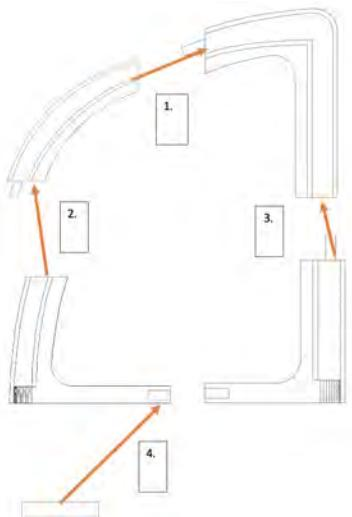

Fig. 37 (Side Piece assembly)
- Print and assemble Sides- Print off files named (LeftSideBottomL, LeftSideBottomR, LeftSideTopL, LeftSideTopR, RightSideBottomL, RightSideBottomR, RightSideTopL, RightSideTopR, 2*SideSecuringBlock) using either PLA or ABS filament. The male peg will slide into the female slot in each piece. The pieces will be assembled in the order of 1. The Top Right piece will slide into the Top Left piece. 2. The Bottom Left piece will slide onto the assembly listed in the previous step. 3. Slide the Bottom Right piece onto the right side of the assembly. 4. Slide the Securing Block into the cavity in between the Bottom Left and Bottom Right piece. Some sanding will be required depending on the type of filament used to print. In order to secure each piece, use any super glue, (Fig. 37) shows the appropriate assembly steps. Repeat for the opposite side. When done there will be a left piece and a right piece. Finally glue the 6mm magnets into the holes on the inside rim of each side piece, 8 magnets will be required. Make sure that magnet polarity lines up appropriately.